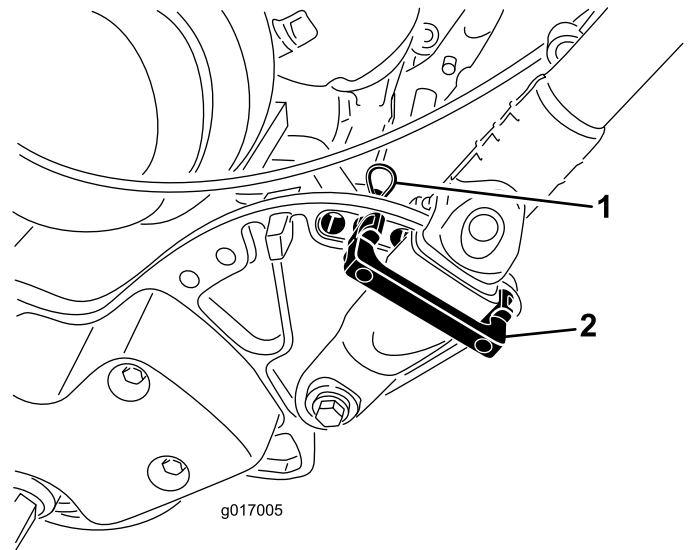

Figure 8
1. While supporting the handle, remove the cable ties securing the handle clamps to the side plates (Figure 8).
2. Pivot the handle to the desired operating position, insert a handle retainer over the handle clamp and into the matching holes in the side plate (Figure 8).
3. Secure the clamp in position with a hairpin cotter (Figure 8).